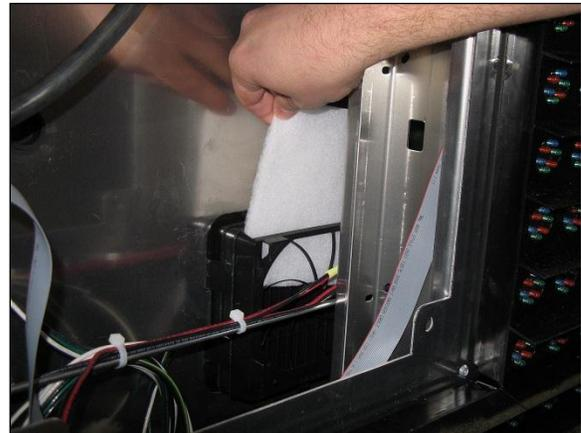

Figure 26: Service Filters in Vent Panels
1. Remove the module that is front of the vent panel. Refer to **Section 6**: for internal display access. Refer to **Figure 26**.